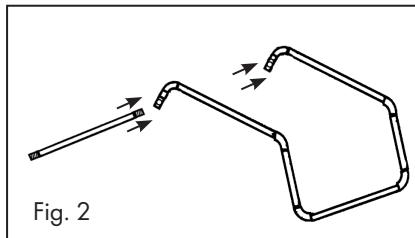

Fig. 2
- Push the wheel axle (2) through the corresponding holes of the lower tube frame (1), see Fig. 2